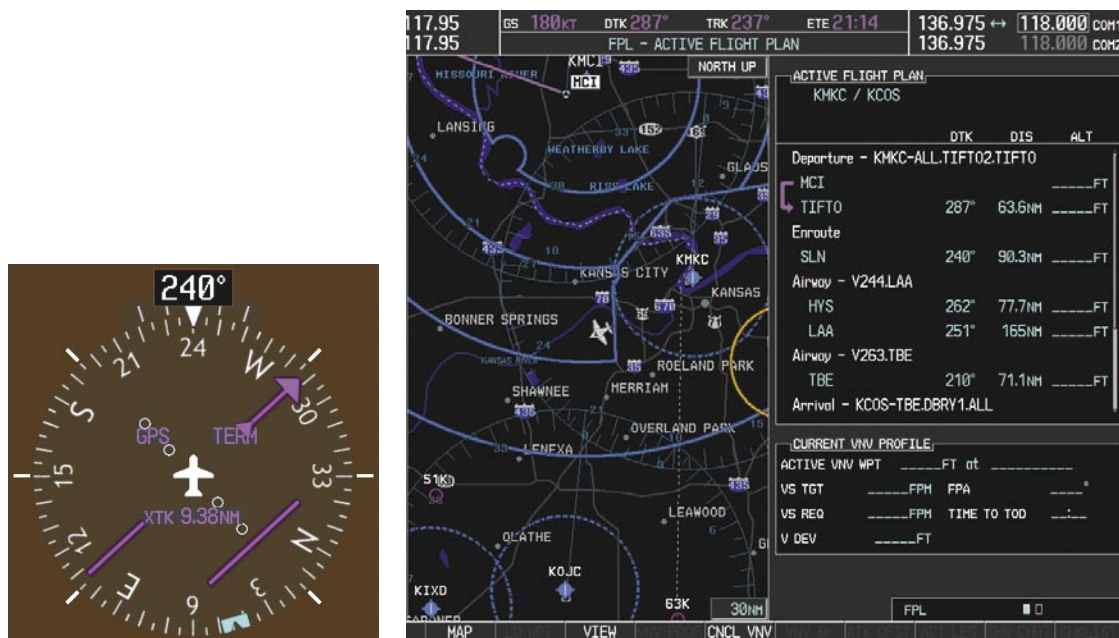

Figure 5-100 Assigned Heading of 240°
- 2) Figure 5-100 shows the aircraft on the assigned heading of 240°. 'TERM' (Terminal) is the current CDI flight phase displayed on the HSI indicating 1.0 nm CDI scaling.